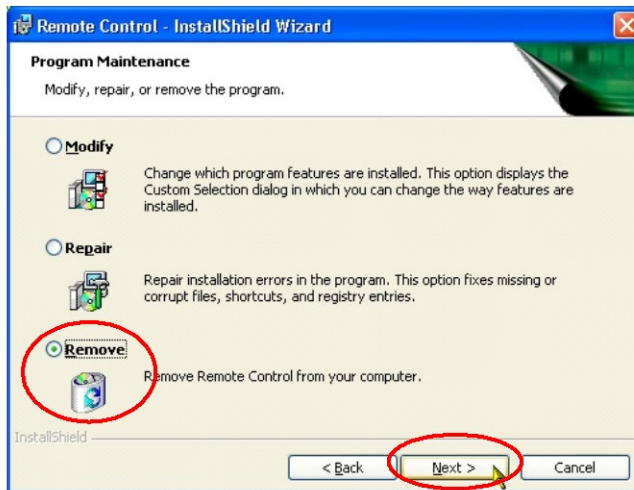
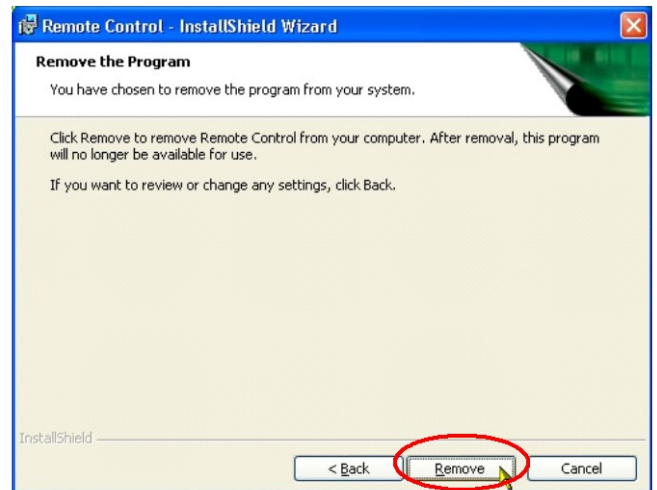
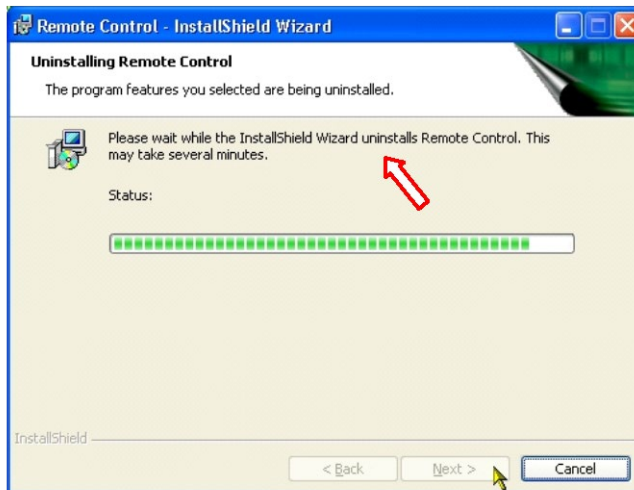

Fig. 79 – After you have clicked on “Remove” and confirmed your choice, the removal of the program will start
Fig. 80 – To proceed with removal confirm that you really wish to remove the program
Fig. 81 – Removal may take several seconds. Click on “Finish” to complete removal
b) Click on the menu item **Remote Control – Installation –** see Fig. 73 (Autorun.exe on the installation CD must be launched). Then click on "Remove" (Fig. 79). Confirm your choice in the dialogue box (Fig. 80) and the Installation Wizard (Fig. 81) will **immediately remove the program**.